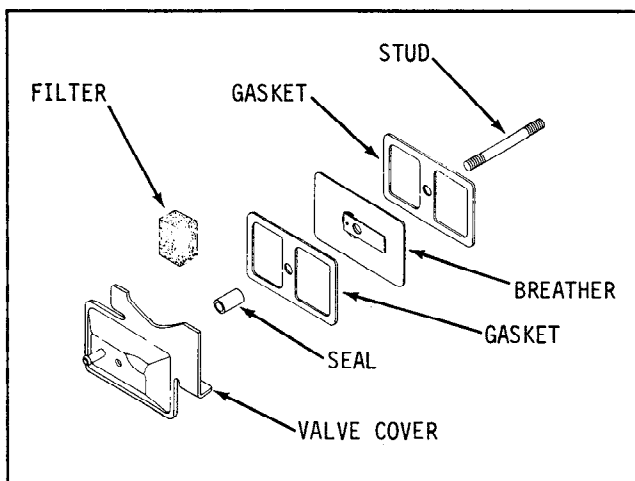

Figure 12-45. K181 Breather Assembly.
1. Install the stud, gasket, breather plate, reed, reed stop, seal, and filter. The accompanying illustrations show the correct order of assembly for two types of breather assemblies. Make sure reed valve is installed properly and that oil drain hole on breather plate is down. Refer to Figures 12-45 and 12-46.